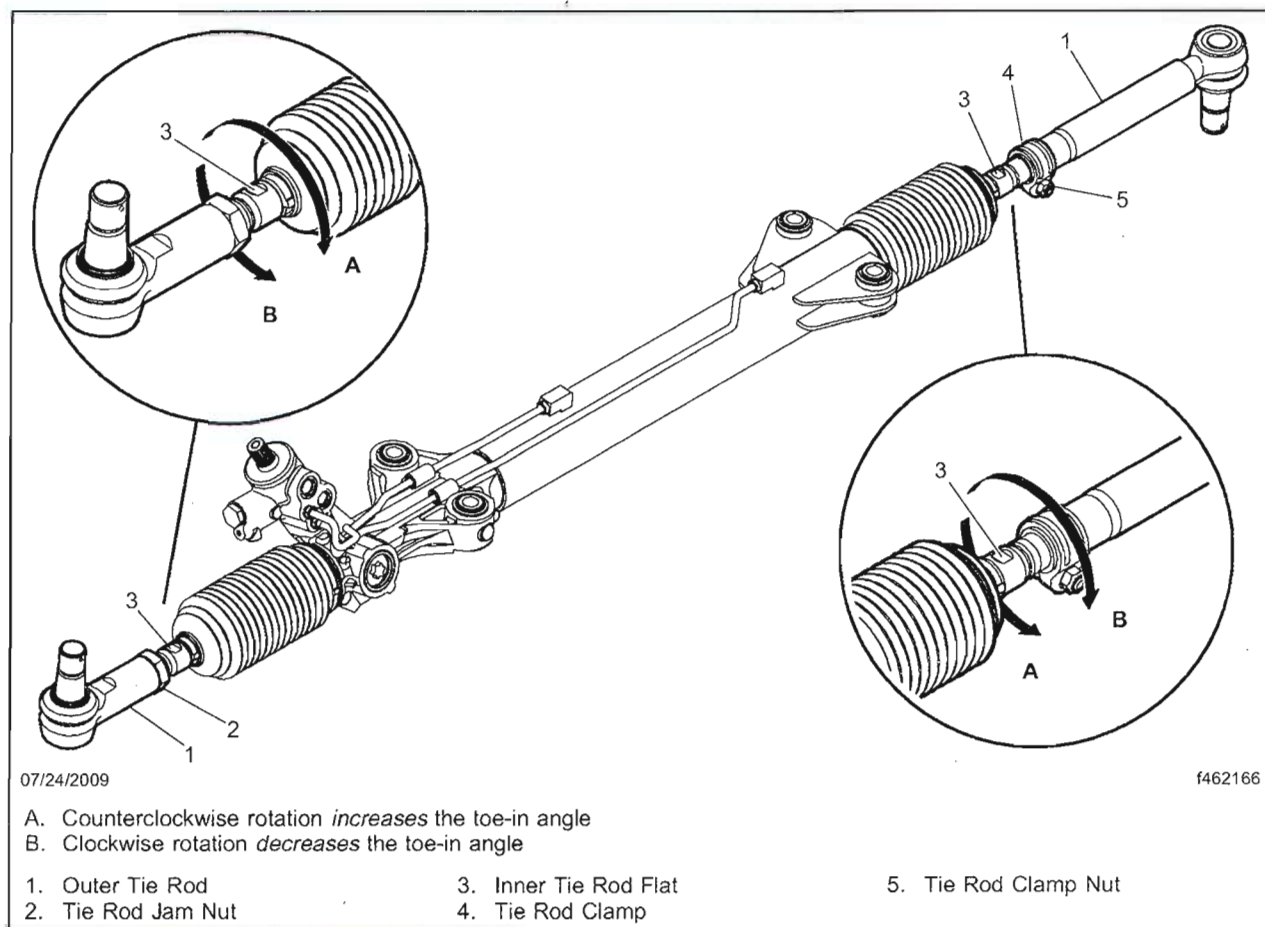

Fig. 11, Rack and Pinion Gear Assembly
- 32.1 Loosen the driver-side tie rod jam nut. If necessary, hold the inner tie rod in place with a backup wrench on the inner tie rod flat (**Fig. 11**, Item 3).